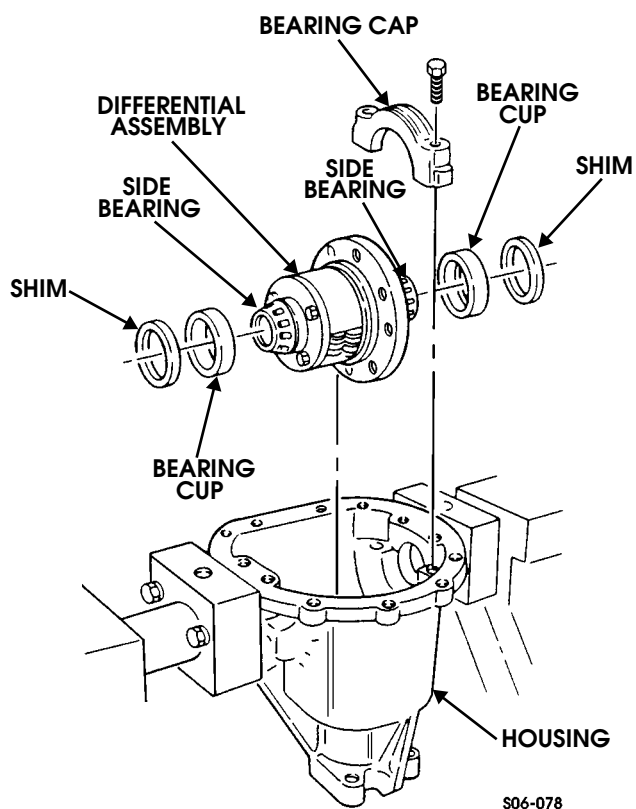

Figure 9-91: Side Bearing Cup and Shim Installation
32. Rotate housing downward 90 degrees. Install side bearing cups and side bearing shims on side bearings. Use 0.080 in. (2 mm) shims as a starting point (Figure 9-91).